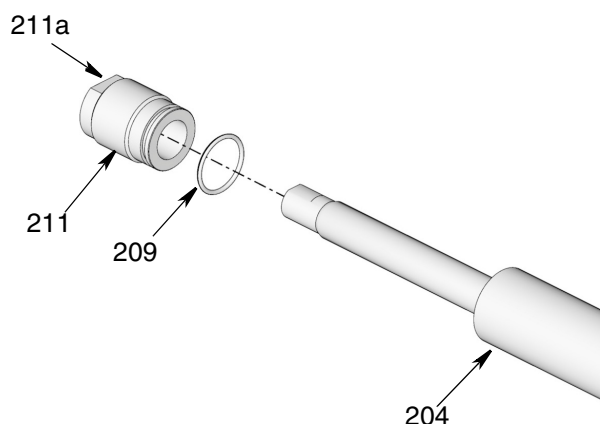

FIG. 41
15. Apply a thin layer of grease to o-ring (209) and install around the seal retainer (211) (FIG. 41).
16. Thread seal retainer (211) to pump cylinder (204) with the seal end installed inside the spacer cylinder housing as shown in FIG. 41. Use a wrench on the nut (211a) to tighten adapter nut securely. Torque to 18-22 ft lbs (24.4-29.83 N.m).